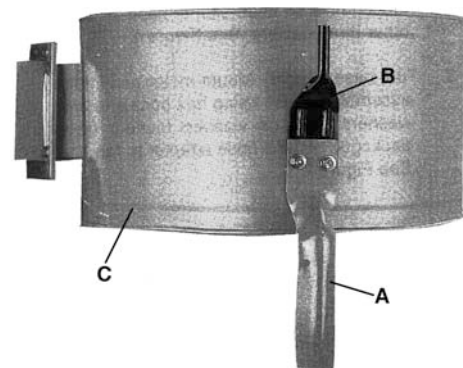

FIGURE 9
7. Attach support brackets (A) Fig.9 to the base using hex. bolts and washers. Do not tighten at this point. Insert hanger brackets (B) (KC-4045C only) between the supports brackets (A) and the housings (C). Align the holes and secure with hex. bolts, washers and nuts. Use two washers per bolt on both the inside and outside of the housings. Tighten all bolts.